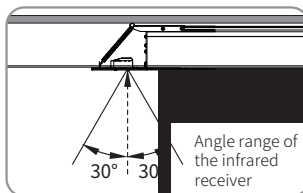

Figure 15
3. Receiver effective angle:  $\pm 30^\circ$  from the receiver axis (Figures 15–16).